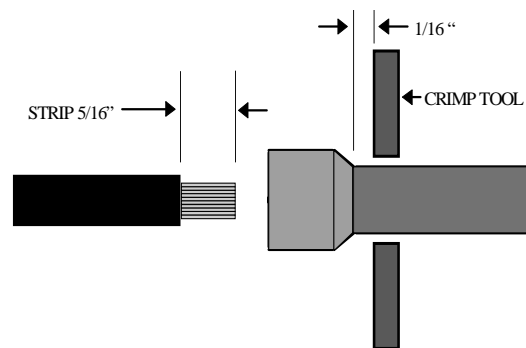

Figure 2-4 Butt-splice connection
2. Insert one wire into one end of the butt-splice, insert the butt-splice into the crimping tool, and crimp firmly. The proper location for the crimp is approximately $1/16''$ (1.6mm) past where the butt-splice insulation tapers down as shown in Figure 2-4